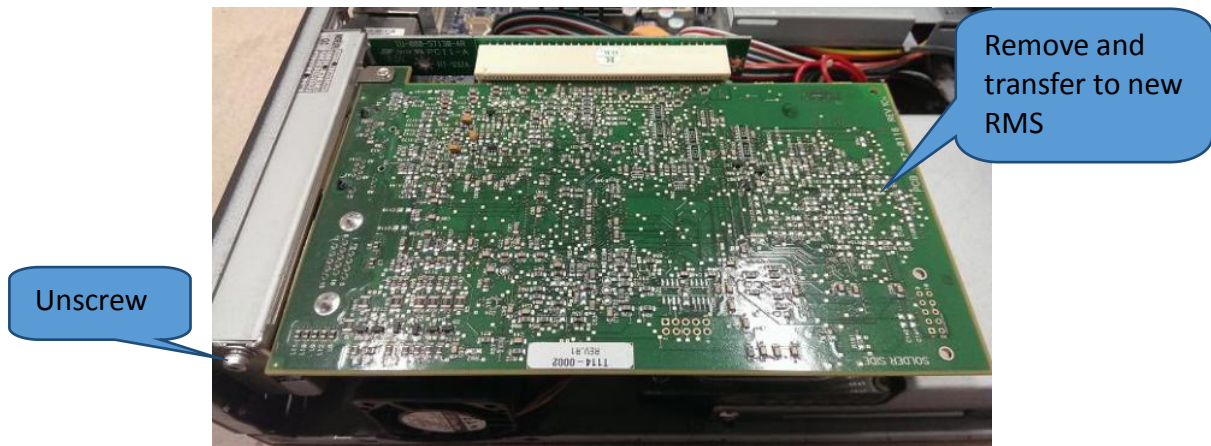

Figure 3 Mei Card removal
- Remove the top cover and transfer the origin MEI Motion Control Card from OLD RMS PC to NEW RMS PC as Figure 3.